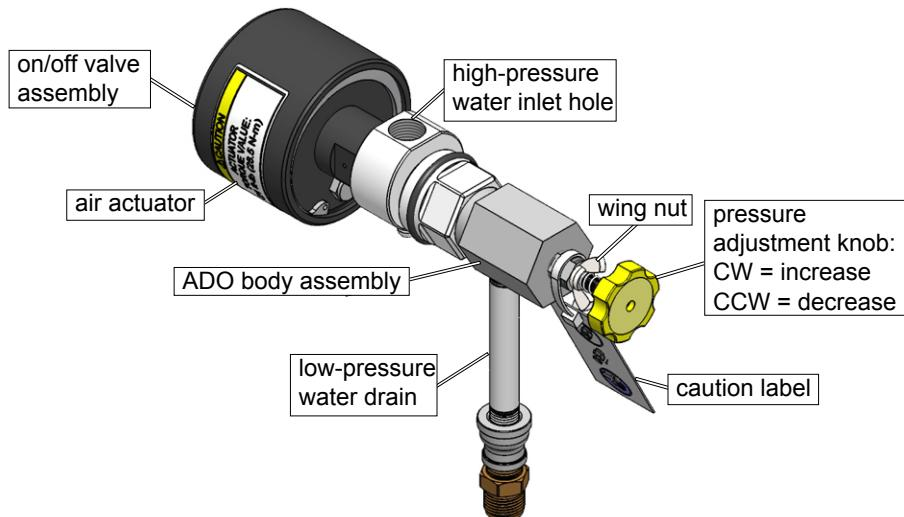
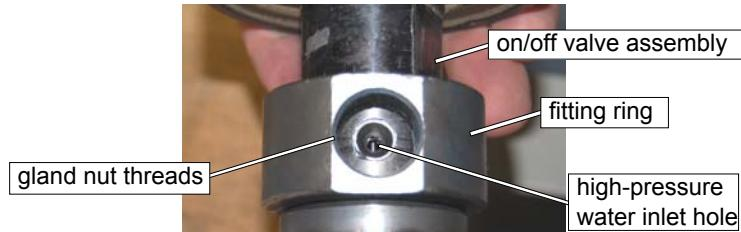
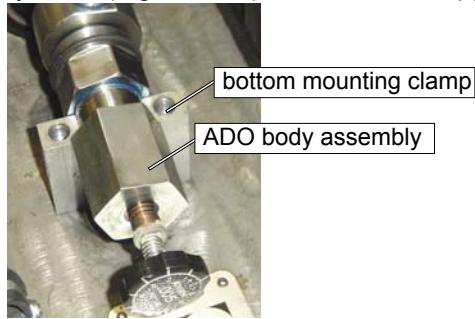
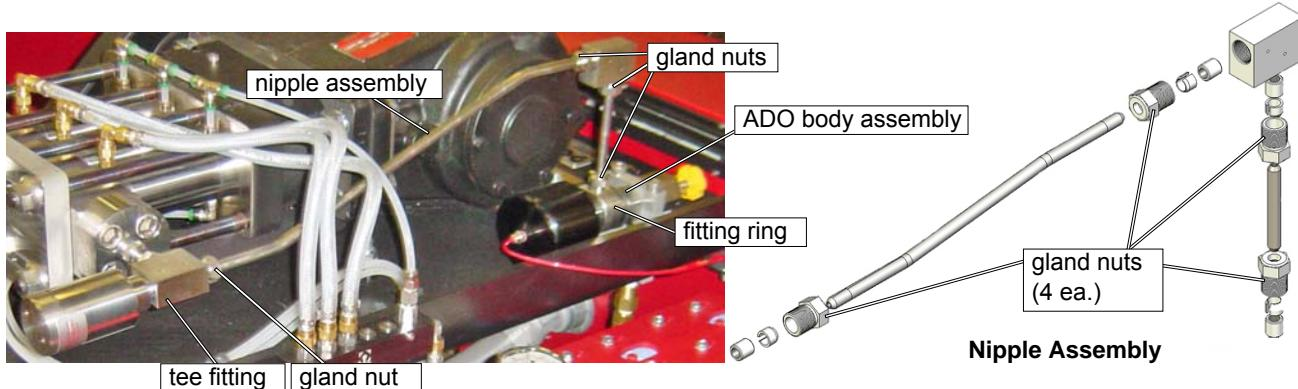

Figure 7-7
Figure 7-22
Figure 7-23
Figure 7-25
Note: *Before tightening the on/off valve to the body assembly, rotate the fitting ring and on/off valve assembly to align threads of the fitting ring with the high-pressure water inlet hole in the on/off valve assembly (Figure 7-22). The water inlet hole aligned with the gland nut threads must be positioned to point up, 180 degrees from the side with the brass nipple pointing down. Refer to Figure 7-7. This alignment enables later installation of the nipple ring (Figure 7-25).*
3. Place the ADO assembly back onto the mounting clamp as illustrated in Figure 7-23 with on/off valve pointing towards the safety valve (Figure 7-25) and the brass nipple inserted into the chassis hole:
- Insert the nipple assembly's gland nut into the fitting ring in the on/off valve. Finger tighten only at this time. Refer to Figure 7-25.